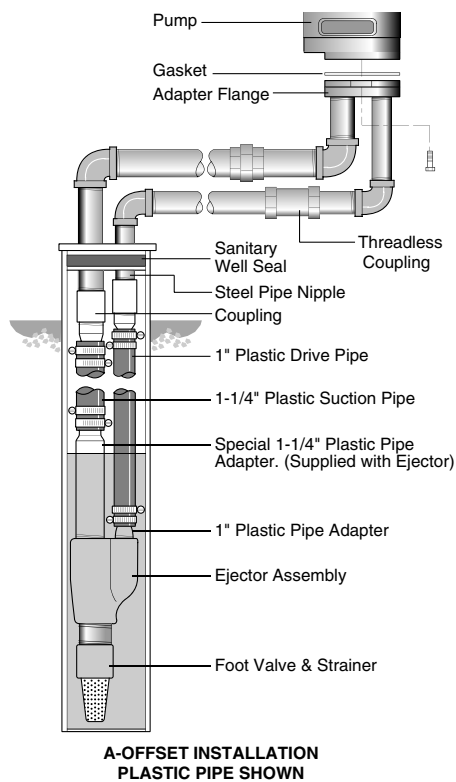

Figure 1: Offset Installation
See Figures 1 and 2.
5. Using Teflon tape on male threads, install special plastic pipe adapter (supplied with ejector) by screwing adapter into 1-1/4" tapped hole in ejector body (see Figure 1).
6. Thread a 1" plastic pipe adapter into the 1" tapped hole in ejector body (see Figure 1).